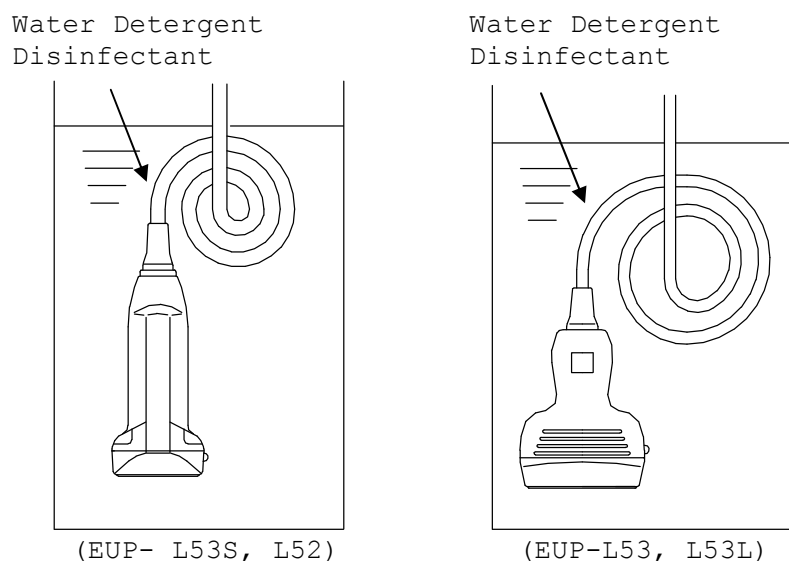

Fig. 5 Immersion of the Probe
- 2) Immerse the immersible part of the probe without connector into the diluted detergent solution (see Fig. 5). Wipe the immersible part of the probe under the surface of the detergent solution with a soft cloth to remove all visible soil. Be sure that all grooves of the probe are implemented during the cleaning process.
- 5) Rinse the probe with running tap water for 1 minute. (alternatively: immerse the immersible part of the probe in a tray filled with deionized water/tap water (see Fig. 5) for 5 min.)
- 3) Immerse the immersible part of the probe into the disinfectant (see Fig. 5). Set a clock to insure the recommended contact time which is 5 minutes.
- 4) Rinse the immersible part of the probe with deionized water for 1 minute. (alternatively: immerse the immersible part of the probe in a tray filled with deionized water (see Fig. 5) for 5 min.)